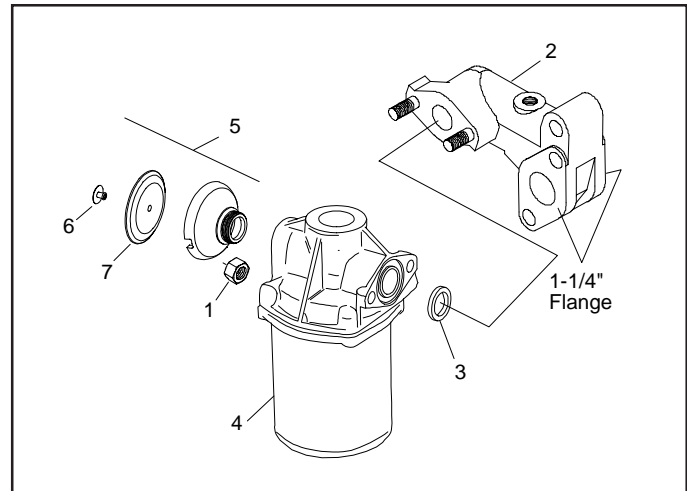

Figure 2 - Vent Protector - Exploded View
8.2.3 Refer to Figure 2. Remove **ALL** free dirt from the exterior surfaces of the #8 Vent Valve and Branch Pipe Tee by wiping with a clean, dry, lint-free cloth. A low pressure jet of clean, dry air may be used to blow the surfaces clean.
9.1.1 Refer to Figure 2. Remove the vent protector assembly (5, 6, 7) from the #8 Vent Valve Portion (4) as a unit.
9.2.1 VENT PROTECTOR ASSEMBLY (Figure 2)